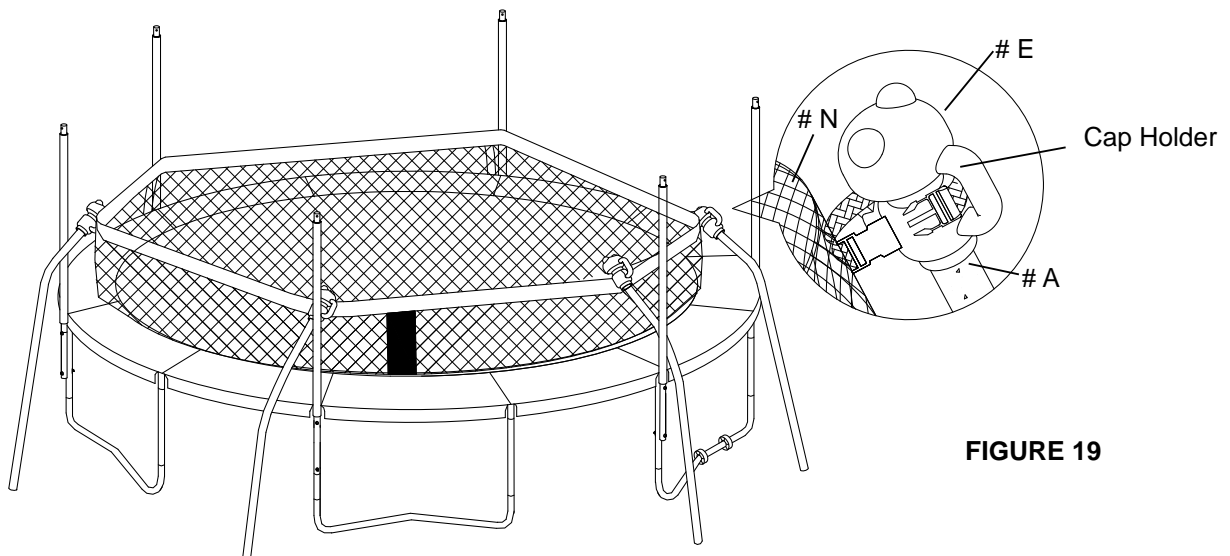

FIGURE 19
- C. Attach the snap in buckles on the top of the netting enclosure to the TUBE CAP (# E) as shown in FIGURE 19. Attach the top snap in buckles for all other sets of tube frame. Please make sure the cap holder is facing outward.